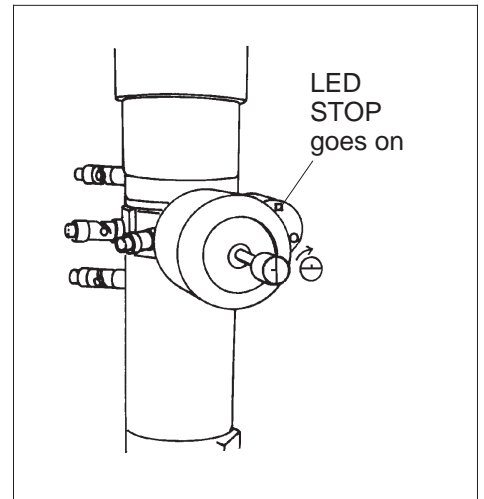

Fig. 4-3b: Preevacuation
- **Turn specimen rod carefully clockwise all the way to *prevacuum* position (Fig. 4-3b).**